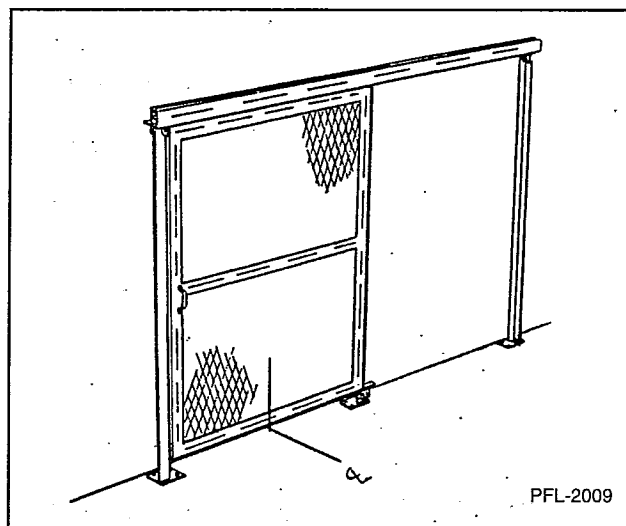

Figure 6
7. Raise the gate assembly. The track and gate are to be on the outside. Position the gate assembly so the center of the closed gate is located on the center of the carriage parallel to the carriage and the inside of the gate posts' base plates are on the chalk line. See Figure 6.